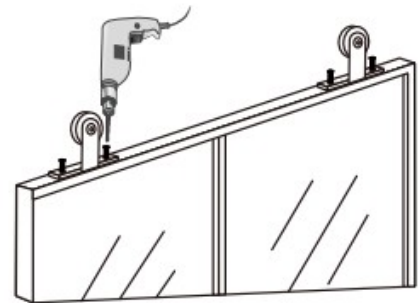

Figure 12
- Fasten the top mount roller to the top of the door using the provided screws as Figure 12.